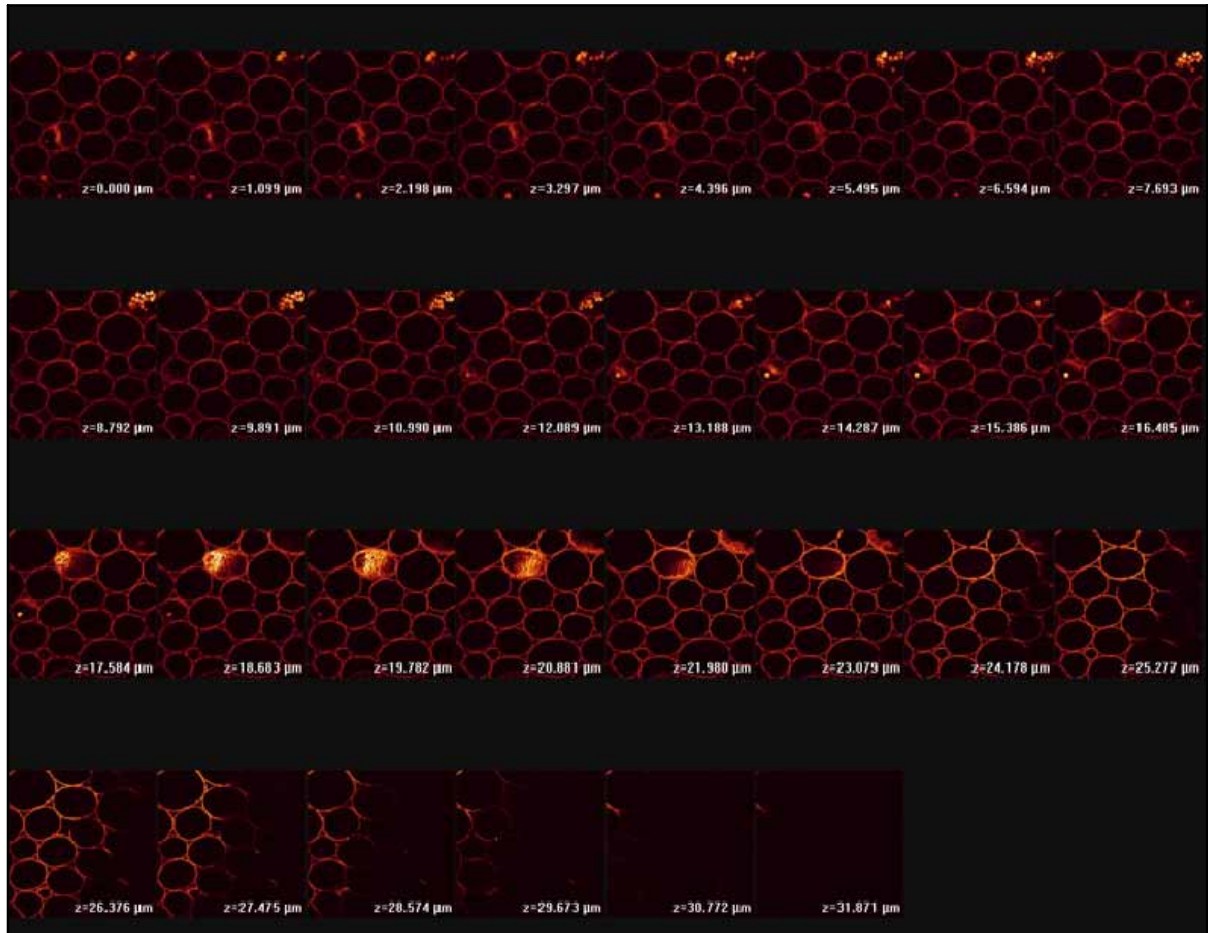

figure67. Gallery of a z stack. This "stamp collection" is well-suited for monochrome publications.
- 3 Switch off the lasers with the key switch (Fig. 67/2).
The emission warning indicator (Fig. 67/1) will go out.
- 4 Next, turn off the switches on the control panel for the TCS workstation and the TCS SP5 (Fig. 67/4/5) scanner.
- 5 The external fan of the argon laser will switch off automatically after several minutes. Also set the switch for the lasers (Fig. 67/3) to "O" at this point.